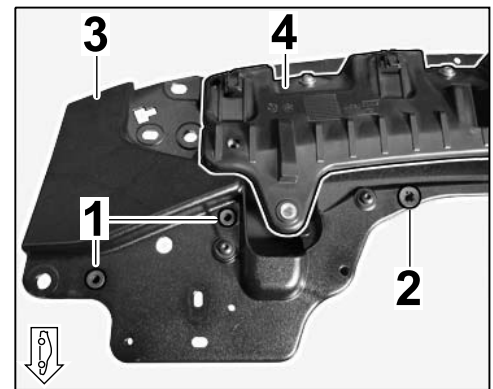

Figure 7
3.1.6 Convert rubber mounting, left/right (2 ea.) for pins on engine compartment trim at the left/right (right side: ⇒ *Figure 7*).
Convert two rubber mountings at the centre for pins on engine-compartment blower (right side: ⇒ *Figure 7*).